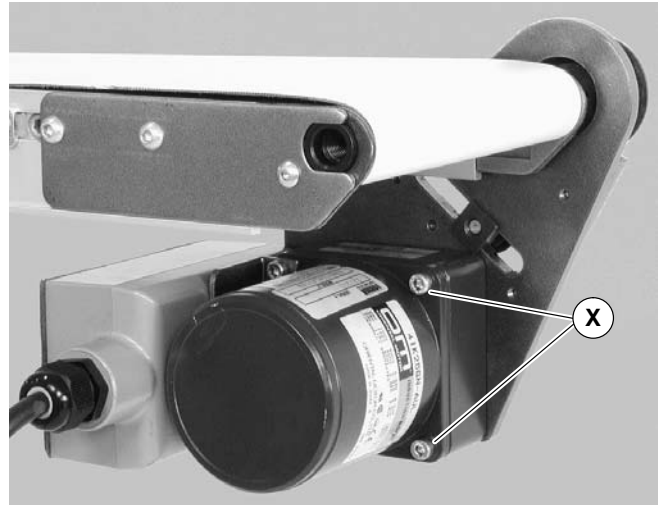

Figure 22
7. Remove four screws (X of Figure 22) and detach gearmotor.